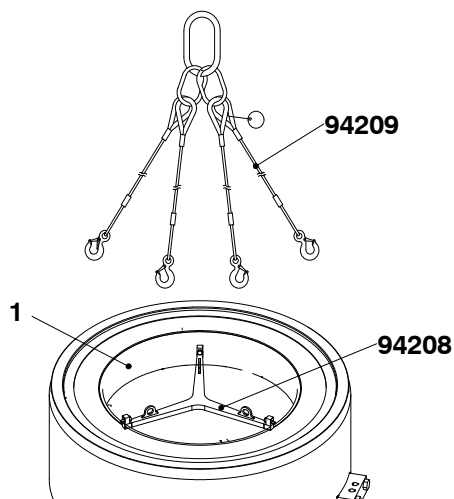

Fig. 2
- 9) Attach the tool (94208, Fig. 2) to the antipolishing ring (1) with the three screws.
- 11) Operate the engine room crane to remove the antipolishing ring (1).